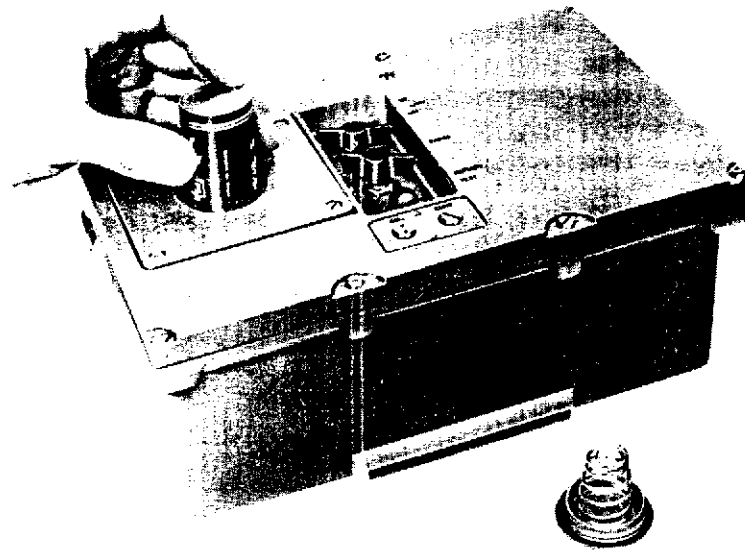

Fig. 6
(3) Insert the new 1.5 volt cell with its brass cap (+) facing downwards into the battery compartment, as shown in Fig. 6. Finally, replace the cell cover.